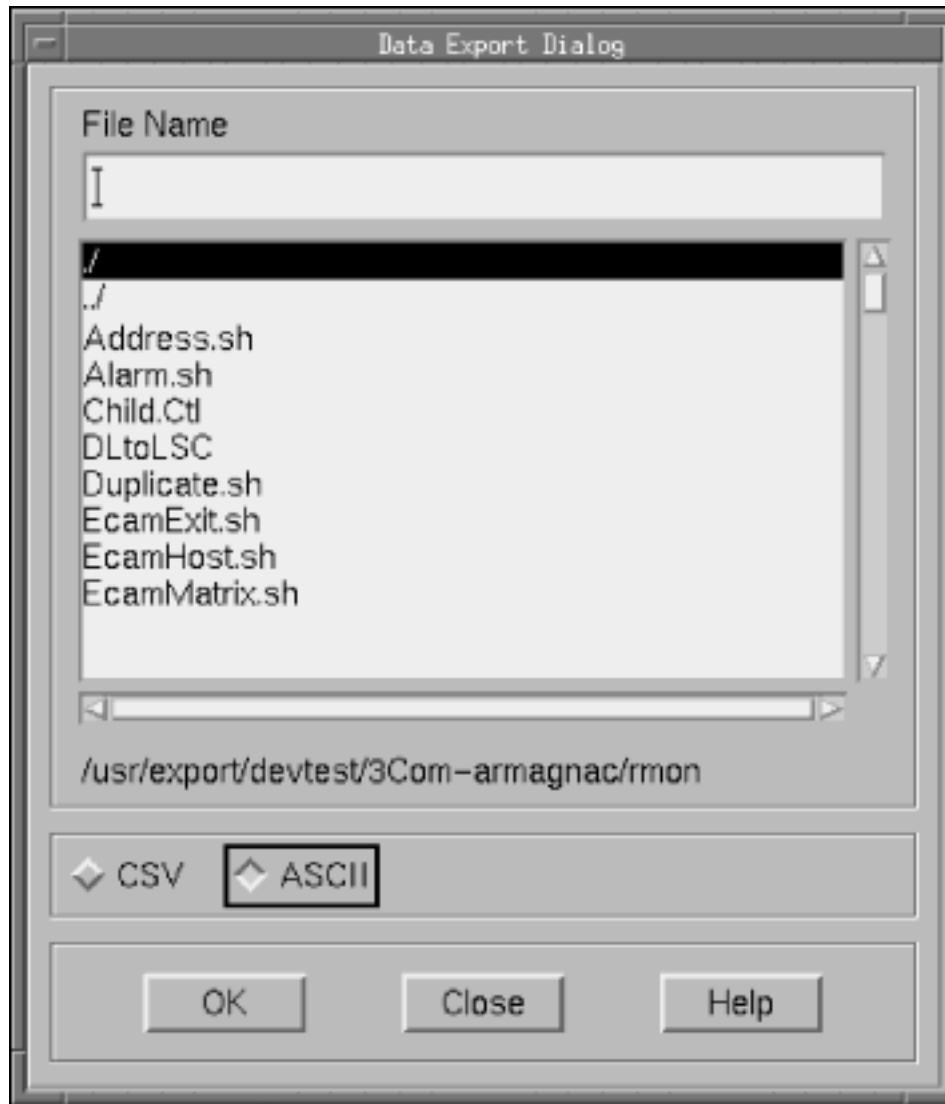

Figure 62. Data Export Dialog Box
2. To export the data contained in the table, click **Export** to open the Data Export dialog box. Figure 62 on page 126 shows a sample Data Export dialog box.